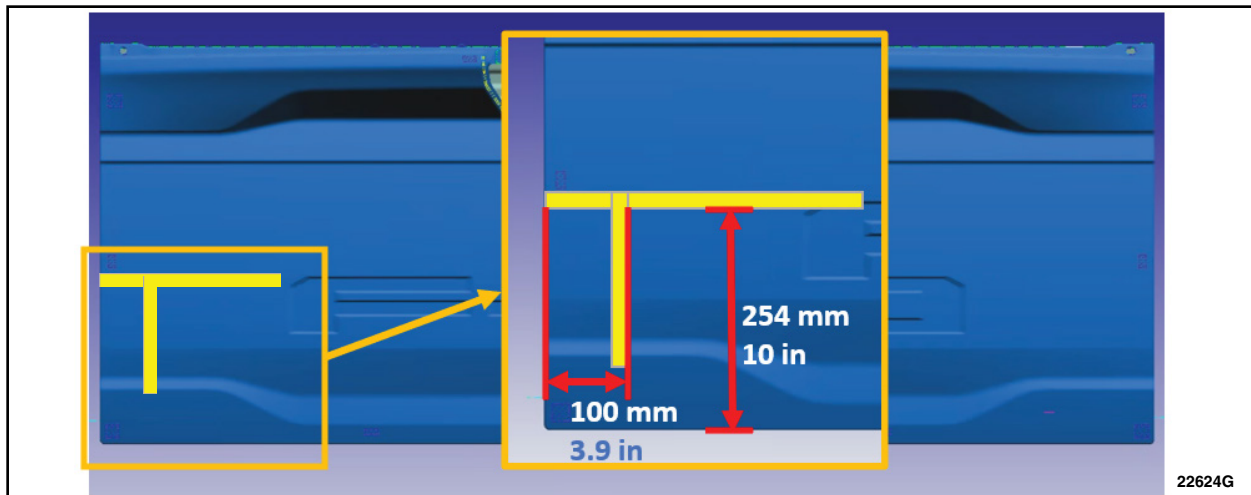

**FIGURE 9**
35. Remove the tape liner from the back of the badge and install to the door using the locating tape to properly align the badge. See Figure 9.
36. Using medium hand pressure, press for 3 seconds at a minimum of 2 separate locations along the length of the badge until the tape is fully adhered. See Figure 9.